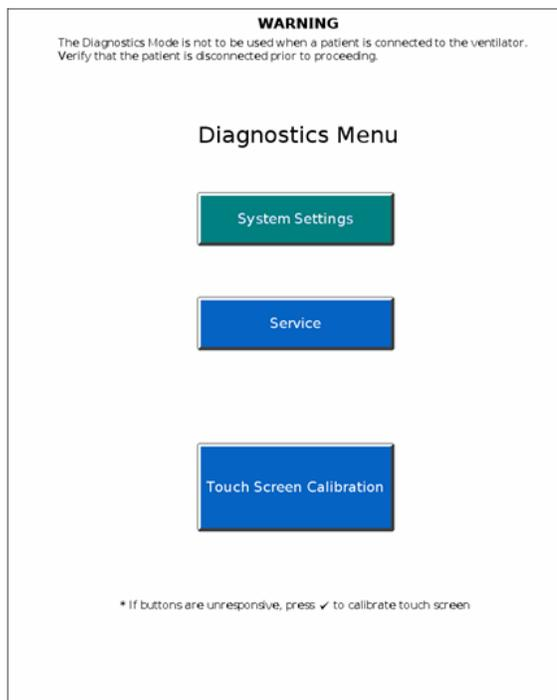

Figure E-1: Diagnostics Menu
3. Within less than 5 seconds, release and press the Accept button again. The **Diagnostics Menu** (Figure E-1) is displayed.